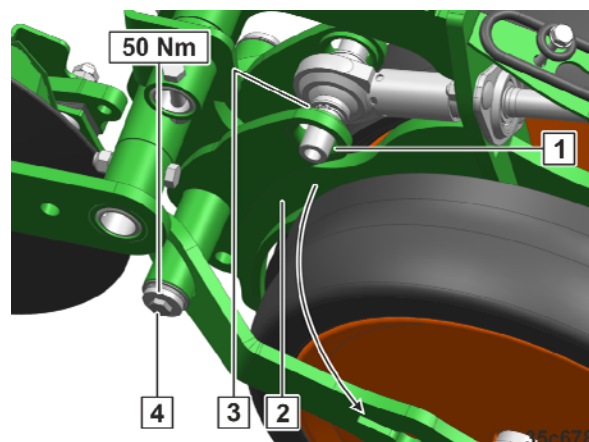

Fig. 319
2. Loosen the bolt (Fig. 319/4) and remove it.
3. Dismount the support roller arm (Fig. 319/2) with the support roller.
4. Remove the spot weld on the rear (Fig. 319/3).
5. Dismount the worn bushing (Fig. 319/1).
7. Place spot weld on the rear (Fig. 319/3).